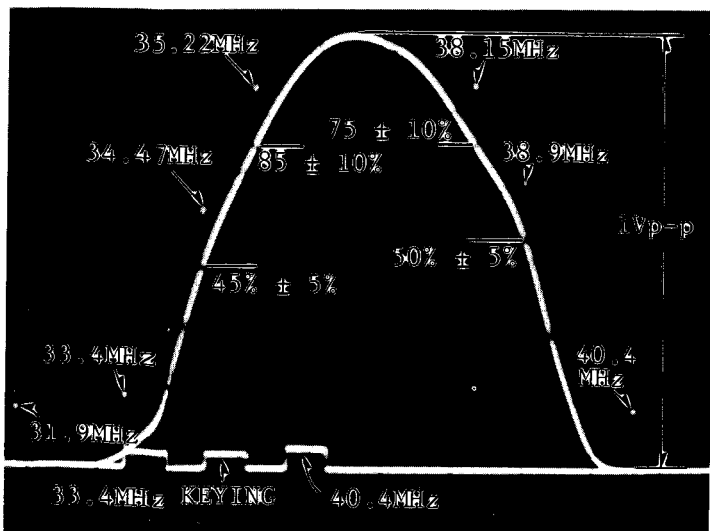

Fig. E8. VIF Waveform
2. Set the Channel Selector to the VHF High position (VH) and see the tuning button so that the voltage at pin 1 of P7001 becomes  $10 \pm 0.5$  Volts DC.
11. Adjust T703 (A) so that the attenuation of the 40.4MHz trap becomes maximum.
12. Adjust T701 and (C)(D)(E)(F) of T703 so that the Sweep output waveform becomes as shown Fig. E8.